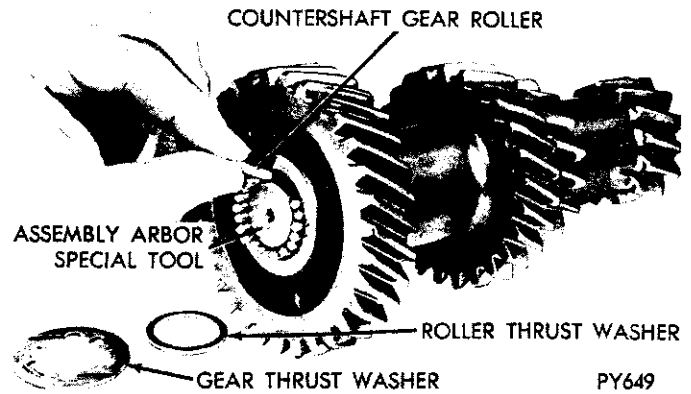

Fig. 24—Countershaft Gear—Roller Bearing Assembly
(1) Slide assembly arbor, Tool C-4112, into countershaft gear.
(2) Slide one roller thrust washer over arbor and into gear, followed by 22 Greased Rollers (Fig. 24).
(3) Repeat Step 2, adding one roller thrust washer on end.
(4) Repeat Steps 2 and 3 at other end of countershaft gear. (Total of 88 Rollers and 6 thrust washers).
(5) Place greased front thrust washer on arbor against gear with tangs forward.
(6) Coat rear thrust washer with heavy grease and stick it in place in the transmission case, with tangs rearward.